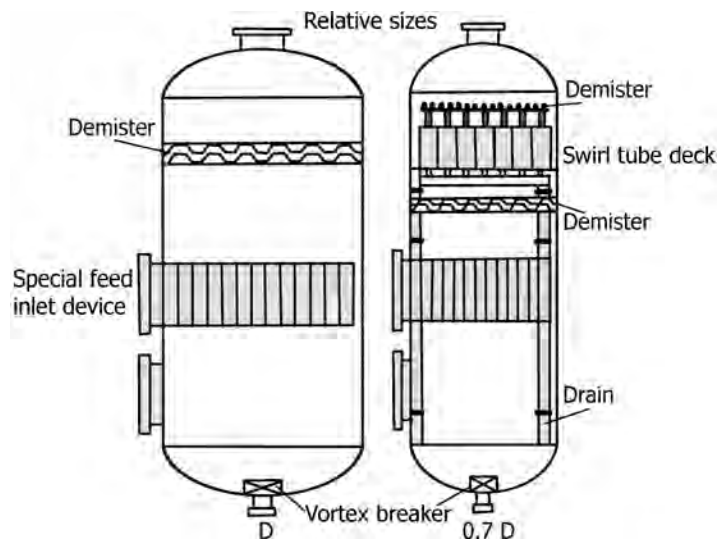

FIGURE 16.41 Gas–Liquid separators. (Courtesy: Copyright © Sulzer Chemtech Ltd.)
- Figure 16.41 gives proprietary designs of vapor/gas–liquid separators by Sulzer, incorporating special features: